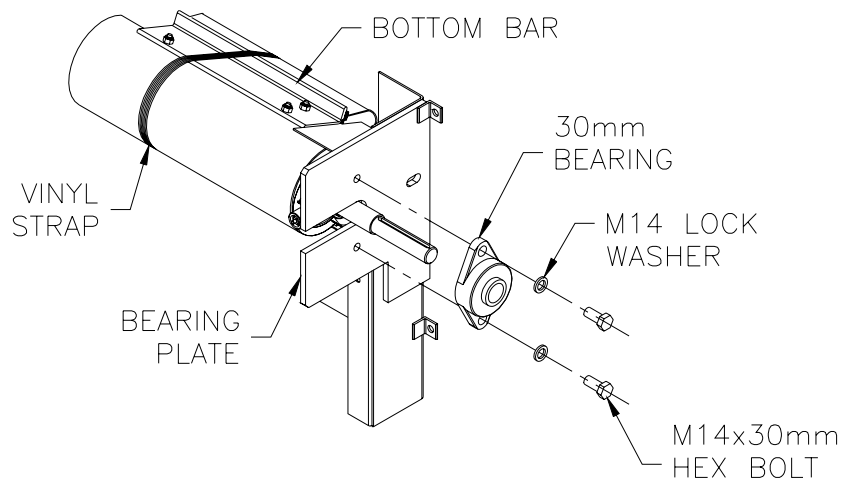

FIG. 7
- **Place shaft with keyway on the Motor side** as Ordered (Figure 7).
- Tighten Set Screws** on Bearing Collars (Figure 7).